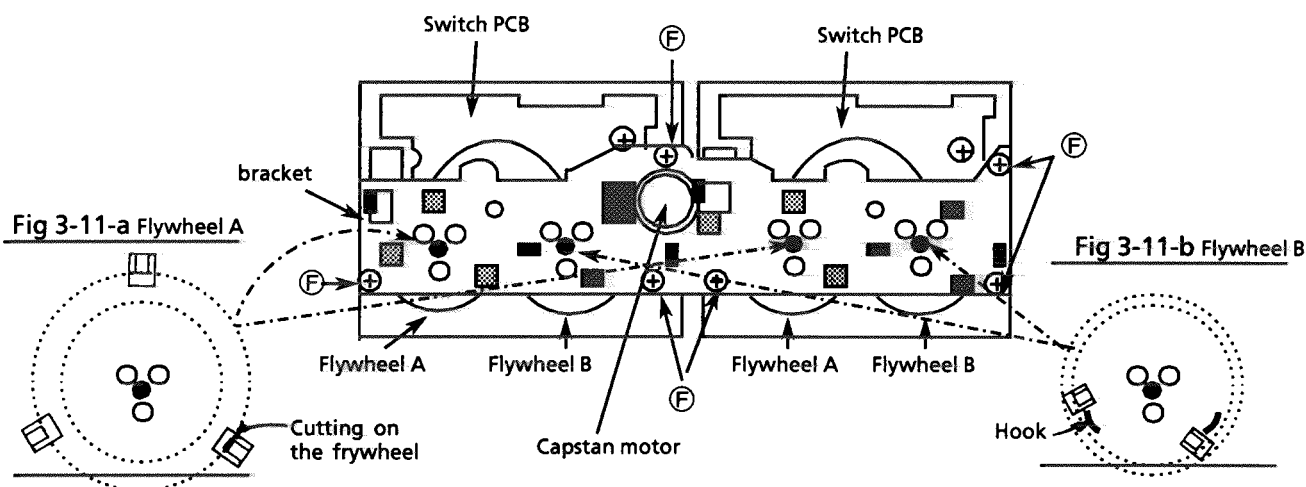

Fig. 3-11 Cassette mechanism bottom view
3. Remove the 6 screws ⑥ holding the bracket.
5. Put the cutting on the flywheel A together the bracket's pawl as shown in Fig. 3-11-a and check that the flywheel B is removed from the bracket's pawl (Fig. 3-11-b).